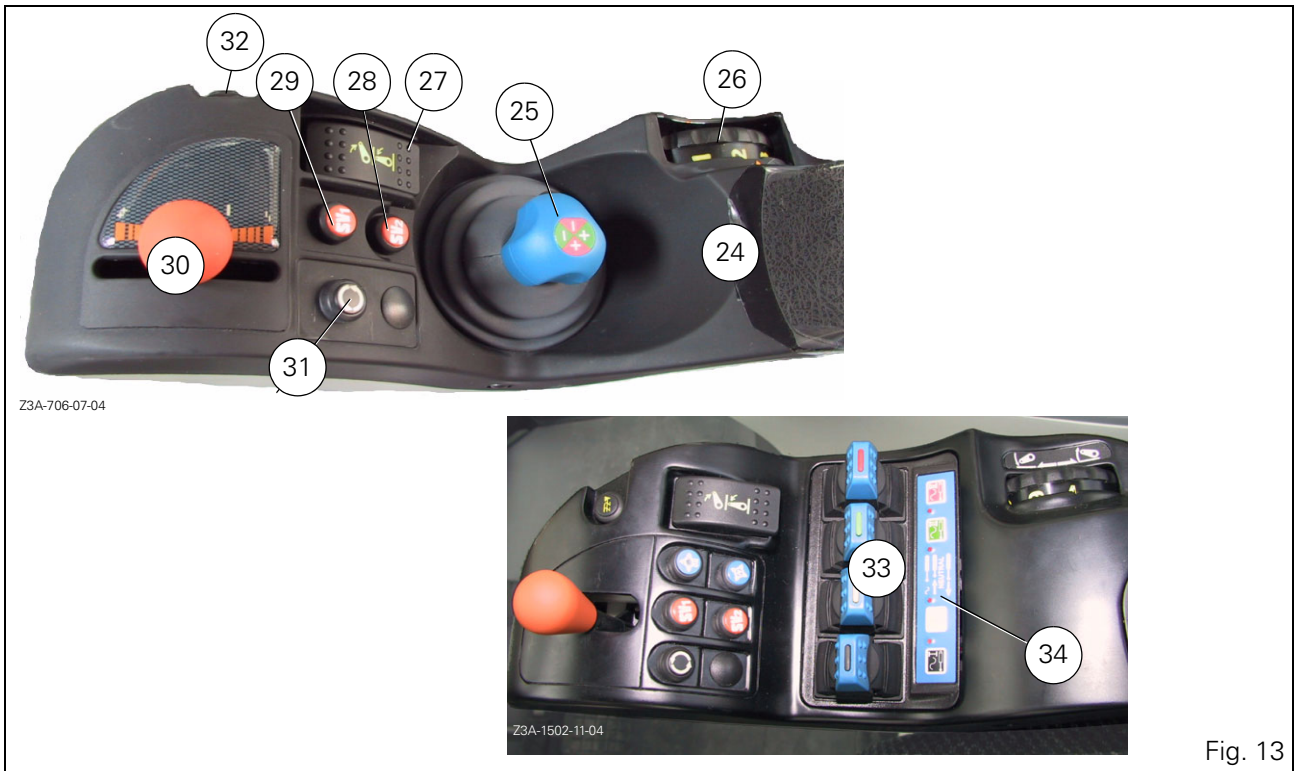

Fig. 13
- 25. 4-function control Joystick (separate or combined). (Fig. 13).
- 33. Four "SMS" spool valve controls ("FingerTIP" option) (Fig. 13), (see section 4.14.8).